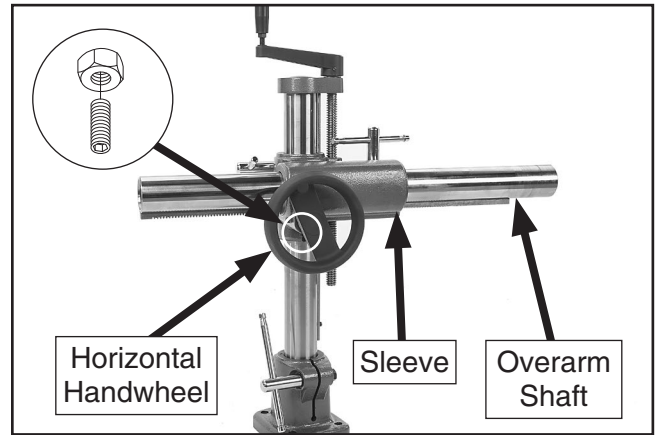

Figure 9. Overarm shaft installed onto vertical column.
2. Loosen hex nut and set screw under horizontal handwheel shown in **Figure 9**, then remove horizontal handwheel.
3. Feed overarm shaft into sleeve of vertical column (see **Figure 9**). Re-install handwheel and engage gears with overarm shaft teeth. Tighten set screw and hex nut just enough to secure handwheel.